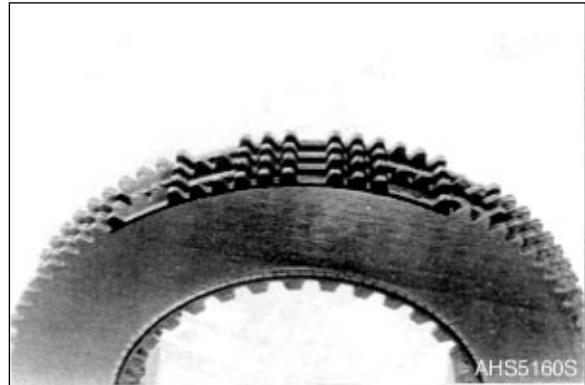

Figure 140
9. Figure 140, shows the required arrangement of the outer plates.